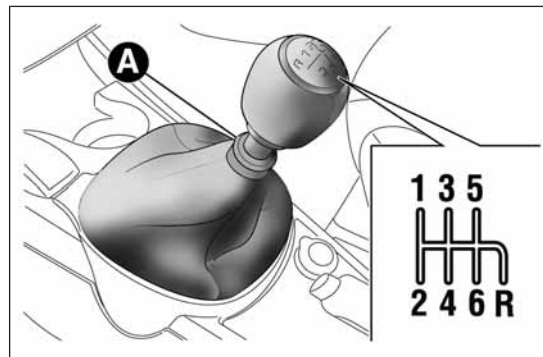
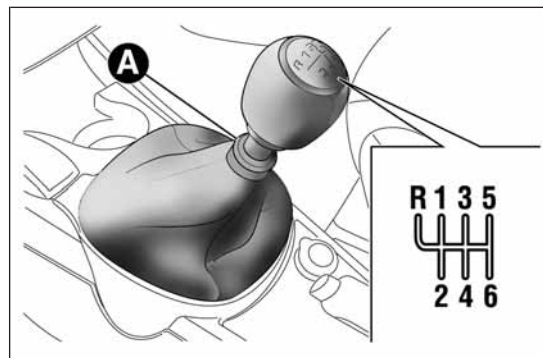
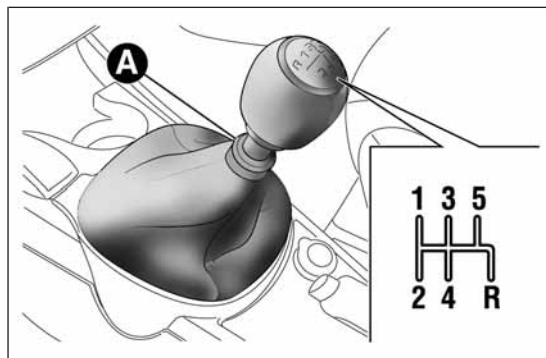

fig. 112
fig. 113
fig. 114
To engage the gears, fully depress the clutch pedal and put the gear lever into the desired position (the diagram for gear engagement is shown on the knob of the lever fig. 112, fig. 113, fig. 114).
- on 1.4 Turbo MultiAir 170 HP Quadrifoglio Verde and 1.6 JTD_M versions, move the lever to the left and then forwards fig. 113;
- on Turbo TwinAir, 1.4 Petrol, 1.4 Turbo MultiAir and 1.3 JTD_{M-2} versions, move the lever to the right and then backwards fig. 112 and fig. 114.